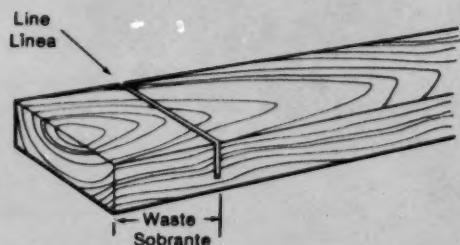

Figure 4-7 Cut on the waste side
3. Place the **heel** of the saw on the edge of the board near the **waste** side of the line (Figure 4-7).